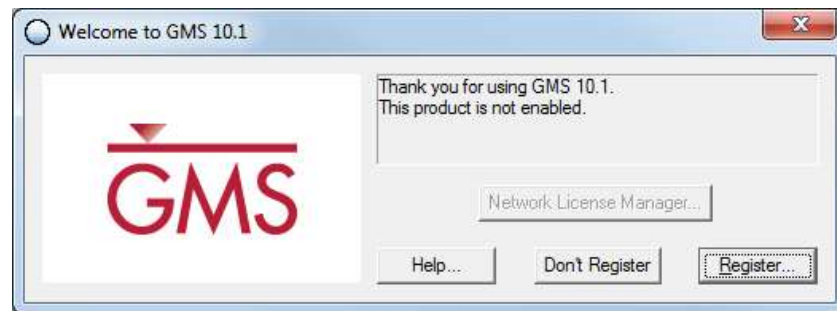
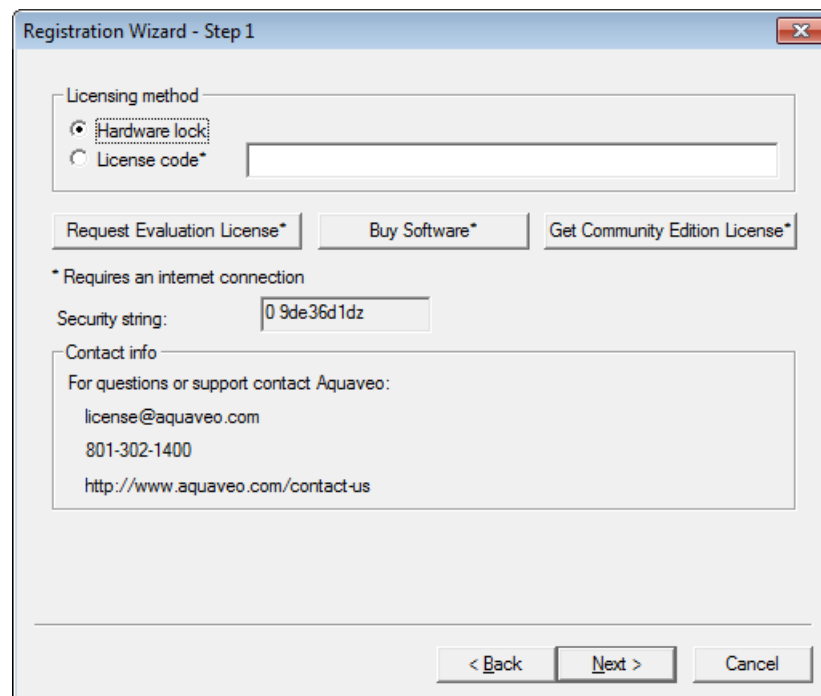

Figure 2 Unregistered version
Figure 3 Registration Wizard dialog
4. If the dialog in Figure 2 appears, click the **Register...** button to bring up the *Registration Wizard - Step 1* dialog (Figure 3) and continue to step 5.